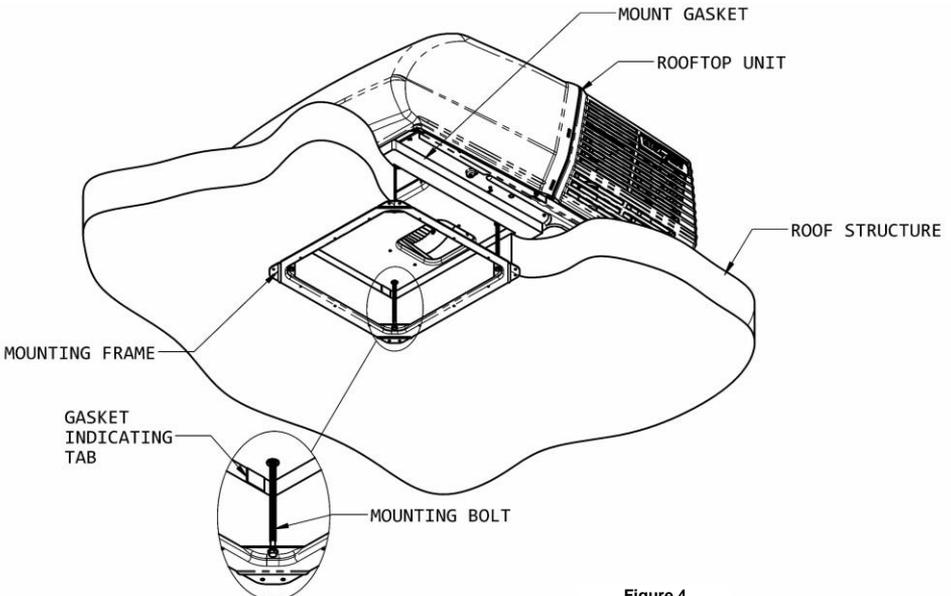

Figure 4
A mounting frame is supplied with the ceiling assembly. Follow the steps below to secure the air conditioner to the roof. Refer to Figure 4.
3. Proper tension has been achieved for each bolt when any portion of each gasket indicating tab has been pulled down even with the roof (See Figure 4). The upper unit has now been properly installed with optimum gasket compression.